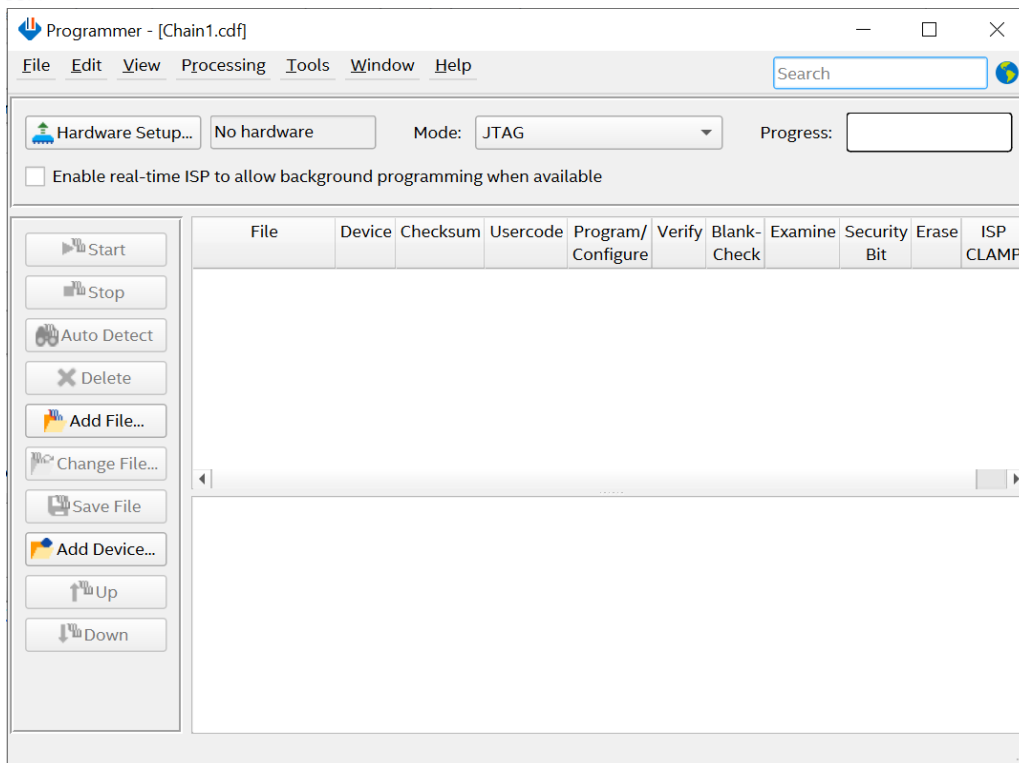

Figure 4-2 Quartus Programmer window
2. Open the Quartus Prime software and select Tools > Programmer. The Programmer window will appear as shown in **Figure 4-2**.